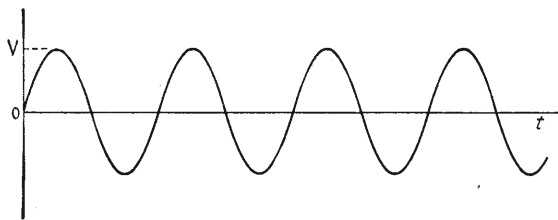
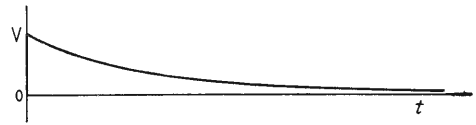
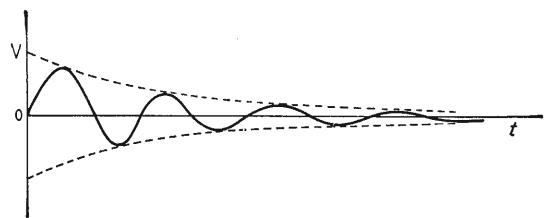
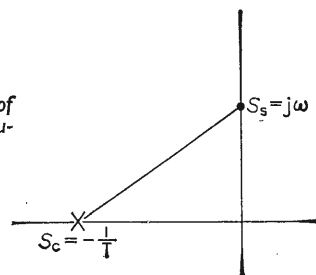

Fig. 1. Sinusoidal waveform, having the real radian frequency ω , which appears on a complex frequency plane as the imaginary $j\omega$.
Fig. 2. Die-away form, having an imaginary frequency represented on a complex frequency as a negative quantity such as $-1/T$.
Fig. 3. Damped oscillatory waveform, combining the features of Figs. 1 and 2 and having a complex frequency, with both real and imaginary parts.
Fig. 7. Elaboration of Fig. 5 to show a sinusoidal source.
The only waveform that has only a single real frequency is the sinusoid, Fig. 1. It can be produced by a suitable generator or source. A well-known way of specifying, say, a voltage having this waveform, is as $V \sin \omega t$, or $V \cos \omega t$. But an alternative is $V e^{j\omega t}$, and in many cases there are good practical reasons for preferring this rather surprising form. The most surprising thing is the j , when there is no doubt about the frequency
resistance as well as reactance. We considered at length a simple one having resistance and inductance in series. Its natural response to an electrical disturbance has the form shown in Fig. 2, for which the mathematical expression is $V e^{-t/T}$, T being the time constant of the circuit, L/R . By analogy with $V e^{j\omega t}$, in which the $j\omega$ indicates a real frequency (of a source or a circuit), $-1/T$ is an imaginary frequency, because it can be regarded as derived from a real frequency, represented by the imaginary number j/T , by multiplying it by j . Carrying the analogy a stage farther, we can say that a source that produced a voltage as in Fig. 2 would have the imaginary frequency $-1/T$, T being the time taken for the voltage to fall to V/e , as with the circuit response.
Circuits having all three elements, L , R and C in suitable proportions, are known to have natural responses such as Fig. 3, combining the features of Figs. 1 and 2. This form can be obtained graphically by multiplying the ordinates in these other two. Multiplication is represented by adding indices, and so the exponential form is typically $e^{(j\omega - a)t}$; here the coefficient of t , which we have found represents the frequency, is a complex number. So in
Fig. 4. Complex frequency plane, on which a general complex frequency is plotted as a \times . If this is the natural frequency of a circuit, its free response is of the Fig. 3 type.
So the concept of frequency, normally applied only to the Fig. 1 waveform, can be extended to any form that can be expressed as an exponential time function (e to the power of something times t). That something is the frequency as plotted on a graph like Fig. 4, in which real frequency is measured along the imaginary axis.
This extended notion of frequency holds for both sources and circuits. When a source is applied to a circuit there are two responses: the free or natural response, whose form is fixed entirely by the circuit, only its amplitude depending on the source; and the forced response, whose form (in linear circuits) is a copy of the source's, only amplitude and phase depending on the circuit. In linear circuits, the only possible free forms are expressible as exponential time functions, so all of them have natural frequencies, in the extended sense. Sources, on the contrary, can be made to give any variation of voltage or current with time. Fig. 1 shows much the commonest. Figs. 2 and 3 are not so widely favoured. But Fourier showed that any periodical form can be made up of a fundamental and harmonics, all of Fig. 1 form. And we mustn't overlook the one point common to both real and imaginary axes—the origin. It represents zero frequency, or d.c. It is an extreme case of any of the three forms shown, and in perfect analogy is denoted mathematically by Ve^{0t} , which is just V .
This was all right in the early instalments, when the idea of a source of imaginary frequency was too ludicrous for us to think of actually putting our definition of a pole to the test by making source frequency coincide with pole. But when we gave a meaning to imaginary frequency, so that a real live source could have it, and found that it was the transient form in Fig. 2, the idea that applying this to an RL circuit having an identical natural frequency would make the impedance vanish (because there is no distance between two coincident points) looked ridiculous. Obviously such a transient voltage applied to a resistive circuit couldn't produce an infinite response. (And if anyone, more cautious in his use of the word "obvious", put it to experimental test, he would find that the response was indeed finite.) That is where we left off.
When these complex frequencies are marked on the usual plane, they give us the pole-zero diagram, Fig. 7 (with no zero in this simple case). In our original rule for using such a diagram, the response was obtained by dividing the excitation by the length of the line joining the two points shown, taking into account also its angle to indicate the phase difference. This directed distance now appears in our equation as $s_s - s_c$. But whereas our s_s was originally limited to the sinusoidal $j\omega$, it is now free to roam anywhere on the plane, representing Fig. 2 or Fig. 3 sources, for instance.
where A is a constant whose value we find (as we did two months ago) from information about the phase at which v is switched on. (2) shows that the form of this free response is as in Fig. 2—as if we didn't know by now!
symmetrical expression for the total response, in terms of the source and circuit frequencies, s_s and s_c respectively. What is more, we have a graphical method of finding the total response—forced and free—of a circuit to an excitation, not limited to the sinusoidal form but valid for any that can be expressed as an exponential function. Briefly, this method is to regard the source frequency as just another pole on the diagram and to use the rules to find each component of the response in turn, by regarding each pole in turn as the source. In Fig. 7 there is only one circuit pole and one source pole, so only two components of response to be added
You will no doubt want to see how this works out for a less simple circuit, but it must be remembered that just now we are exploring what happens when the source frequency is the same as the circuit frequency, so that the two poles coincide. In particular, we were trying to imagine what would happen if the circuit pole was as in Fig. 7 and the source voltage as in Fig. 2, so that its pole was on the same axis and could be made to coincide by making its rate of die-away the same as that of the circuit transient.